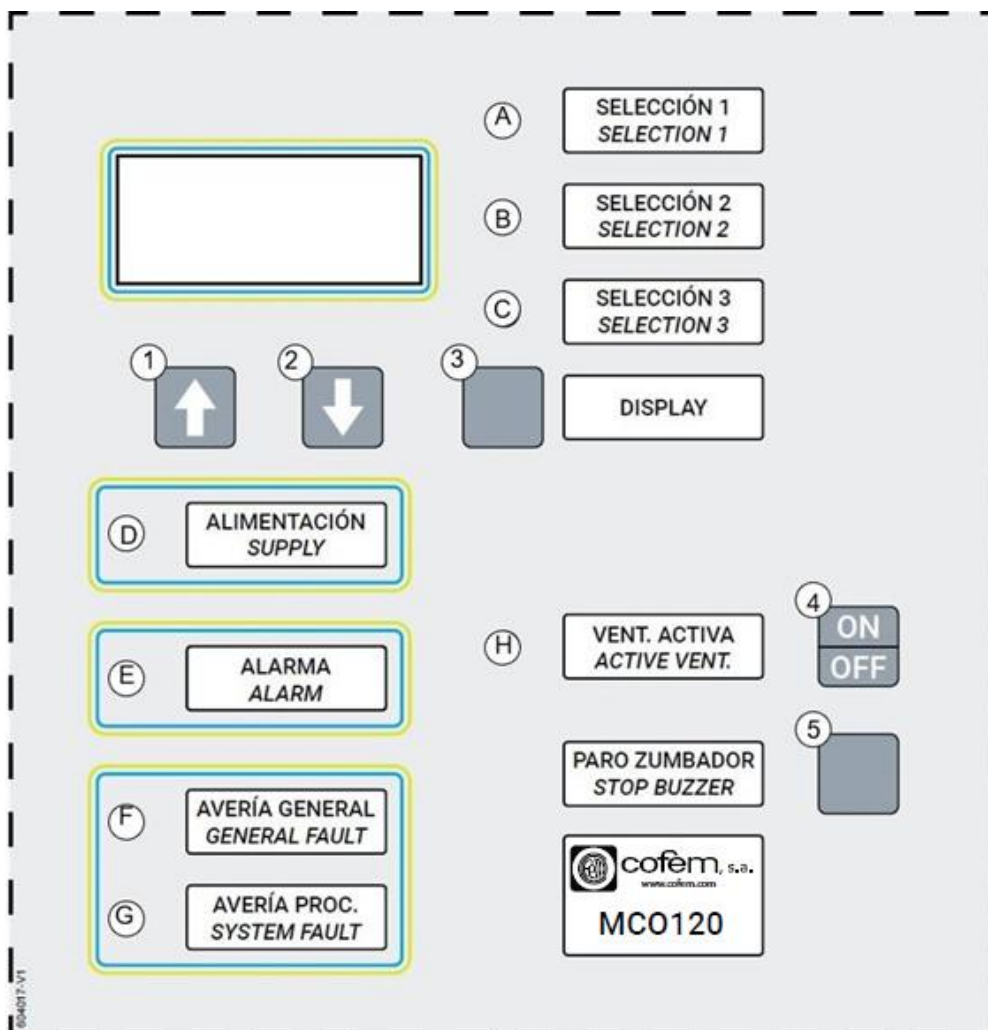

Figure 9: Front panel
It will be activated whenever there is a fault in the system or there is no power, indicating the fault status through its corresponding LED (for more information see *Figure 9* and *Table 4*).
This front panel is common to all the control panels and is represented in *Figure 9*, where the LEDs are marked with letters and the control buttons with numbers.
- 8) If the panel control model is DVB, disconnect the power supply from the panel control. The control unit must activate the buzzer and the "Power" LED (letter D in *Figure 9*) will blink. After verifying that the system is stable and continues to function normally, reconnect mains power. The power LED (letter D in *Figure 8*) must be ON and fixed.